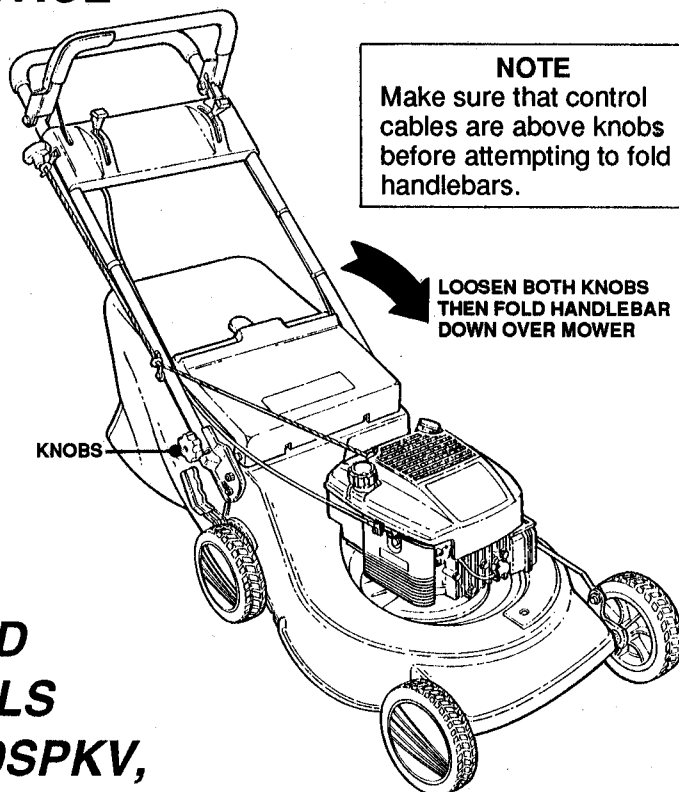

FIGURE 15
8. The handlebar may be tilted forward AFTER loosening both KNOBS. The Grass Bag does not have to be removed. See Figure 15.